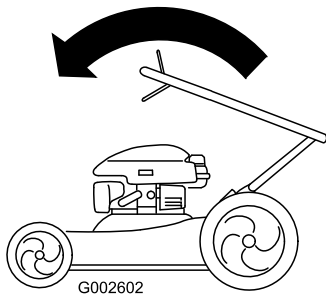

Figure 36
2. Fold the upper handle forward as shown in Figure 36.